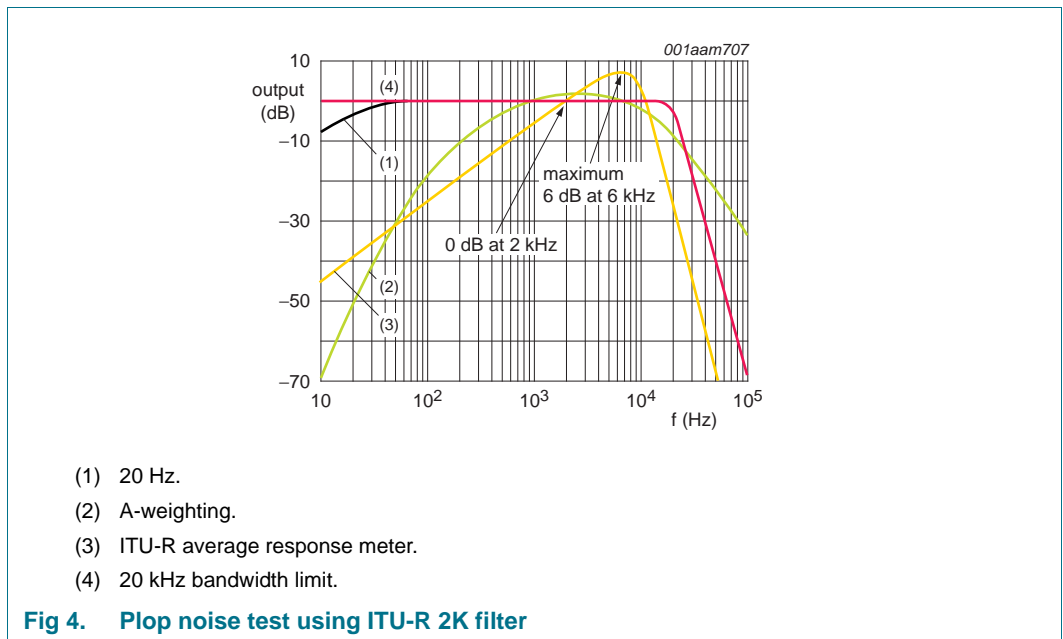

Fig 4. Plop noise test using ITU-R 2K filter
- [5] The plop-noise during amplifier switch-on and switch-off is measured using an ITU-R 2 k filter; see Figure 4.